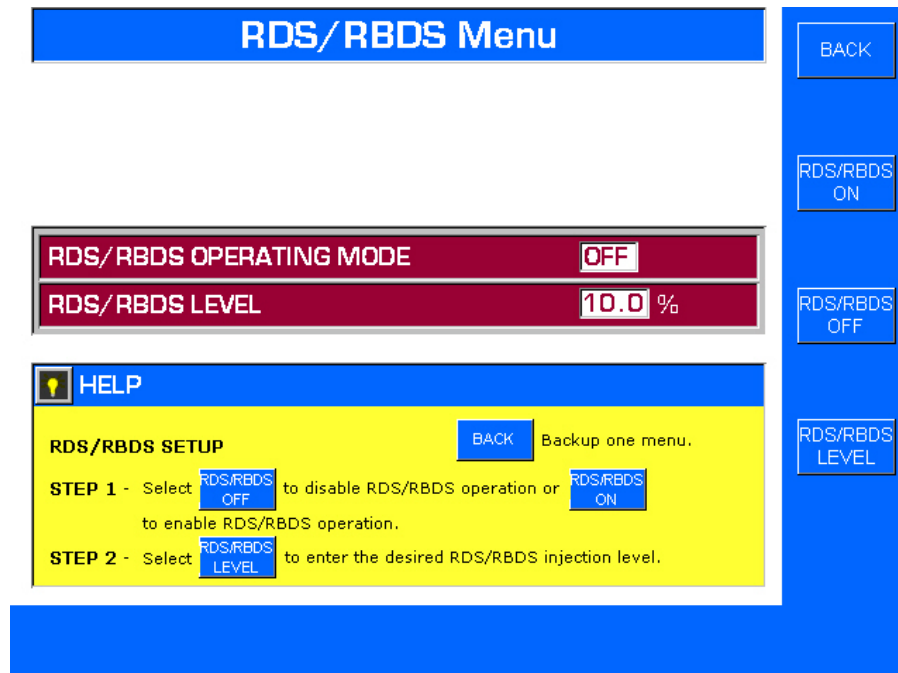

Figure 3-29. INTERNAL RBDS MENU
The FXi internal RBDS/RDS operating parameters are programmed using the Internal RBDS Menu (refer to Figure 3-29). Programmable RBDS parameters include: 1) operating mode and 2) level. The default parameters are: 1) operating mode - off and 2) level - 10%. To set up the RBDS operating parameters, proceed as follows:
1. On the Main Menu, depress INTERNAL RBDS. The Internal RBDS/RDS Menu will appear (refer to Figure 3-29).